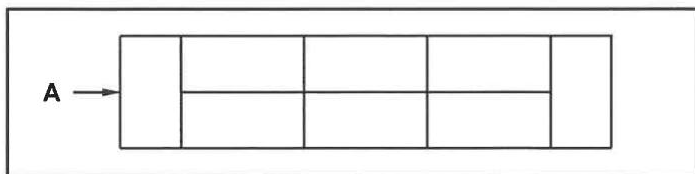

FIGURE 3.10
- 3.10 FIGURE 3.10 below shows the first course of the top view of a one-brick wall.